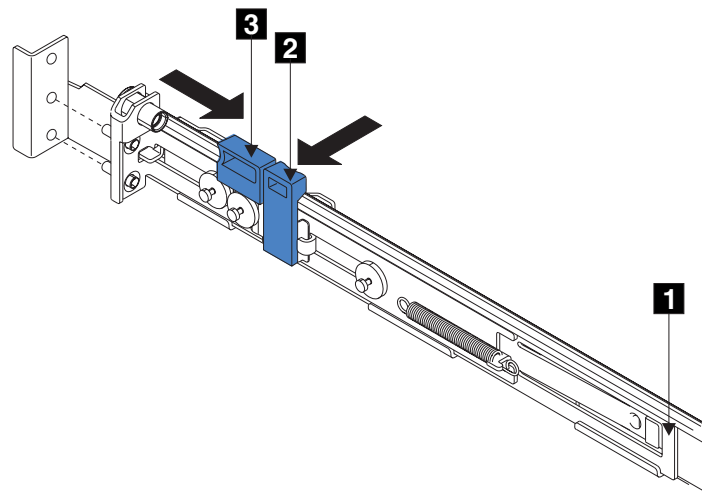

Figure 127. Opening the back latch-lock carrier assembly
5. Push the back rail bracket **1** (Figure 127) toward the front of the rail until it stops. The rail is now at its shortest adjustment.